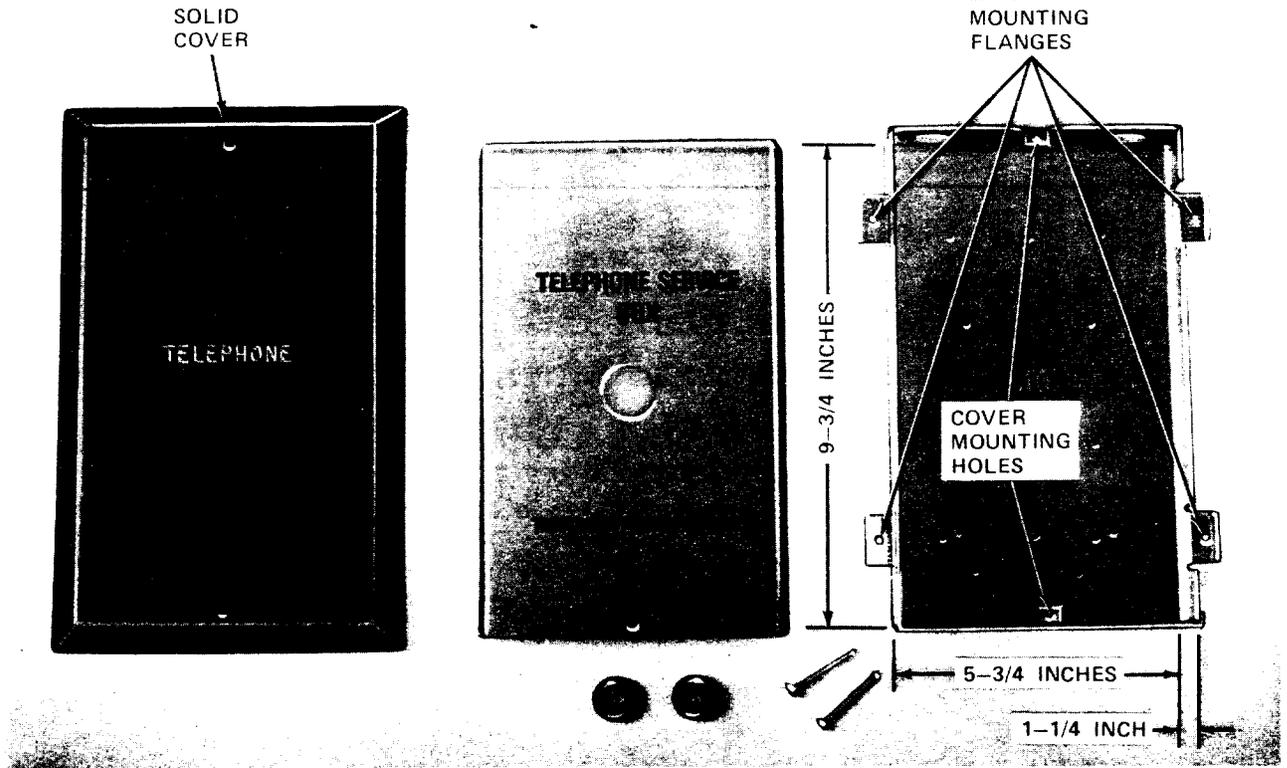

Fig. 6—810A Station Service Box
B. 810A Station Service Box (Fig. 6)